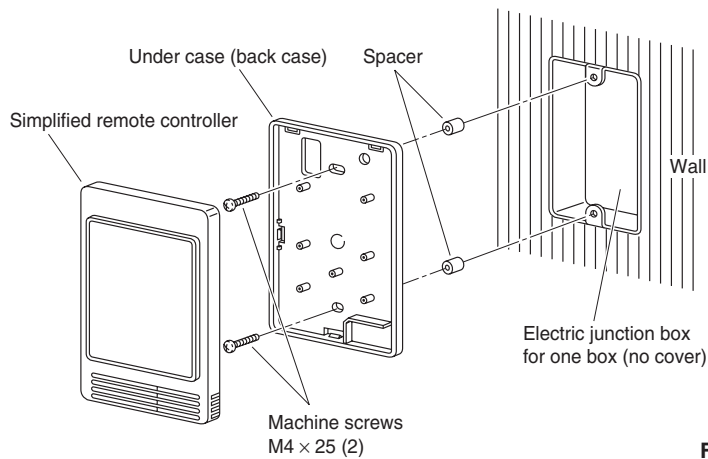

Fig. 3-57
- Use an electric junction box (supplied locally) (Fig. 3-57) for flush mounting of the remote sensor.